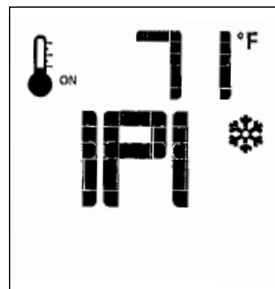
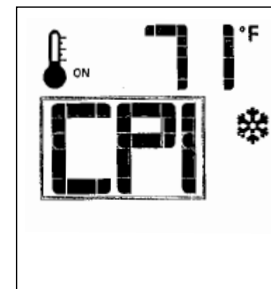

Figure 50. IPI is the default position.
Figure 51. CPI ON.
4. Connect the Blower wire harness to terminal (B) on the IFC board as shown in fig. 50. Use the wire tie provided to take up any extra slack in the harness.
■ With the transmitter in the OFF position, press the transmitter Mode key - IPI is the default mode. Fig. 50. Press the Up arrow to index to the CPI icon and activate the Continuous Pilot Ignition mode. Fig. 51. Pressing the Down Arrow Key will return to Intermittent Pilot Ignition. A single “beep” will confirm reception of the command.